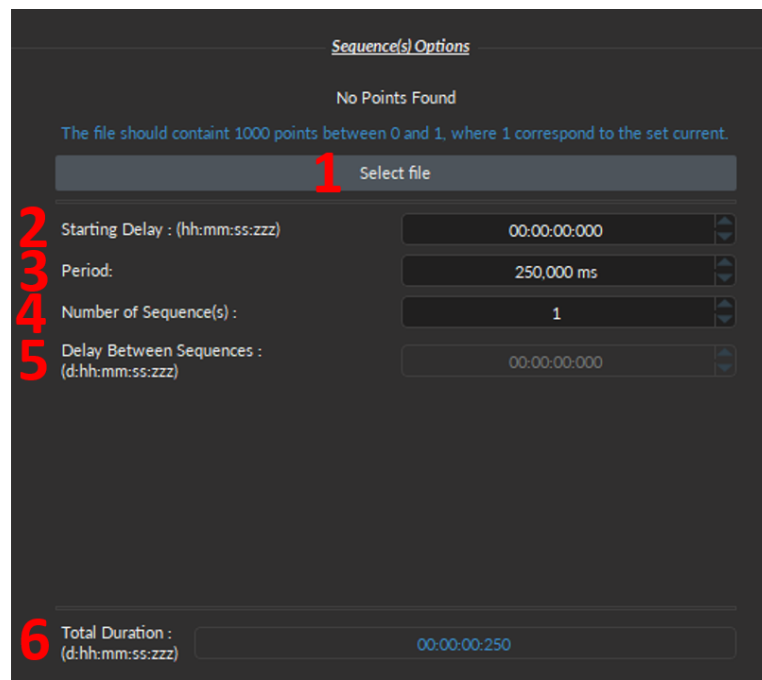

Figure 4.11: Custom File Sequence
2. The **Starting Delay** (Fig. 4.11) sets the delay (in hh:mm:ss:zzz format) before the first pulse sequence.
3. The **Period** (Fig. 4.11) sets the period (in ms) for the pulse sequence contained in the file.
4. The **Number of Sequences** (Fig. 4.11) sets the number of times that the sequence will be repeated, with a minimum of 1.
5. The **Delay Between Sequences** (Fig. 4.11) sets the delay (in hh:mm:ss:zzz format) between each sequence if the **Number of Sequences** is greater than 1.
6. The **Total Duration** (Fig. 4.11) displays the total time of the experiment. The displayed values can be *Inf* for infinite or a valid time value.